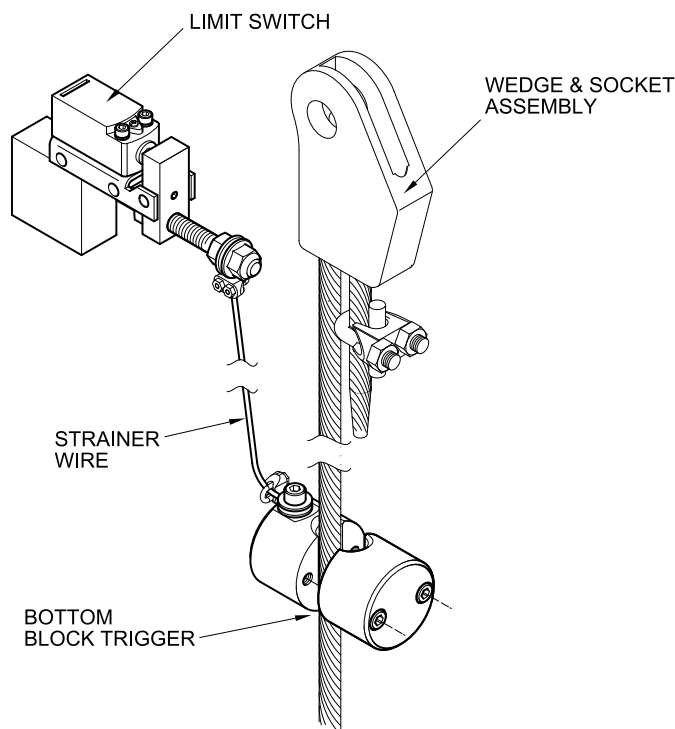

Figure 36 – Ultimate Upper Limit Switch – Hook Block Type
**The bottom block trigger must be positioned around the fixed rope on the reeving arrangement i.e. the rope which terminates at the wedge and socket see Figure 36.**